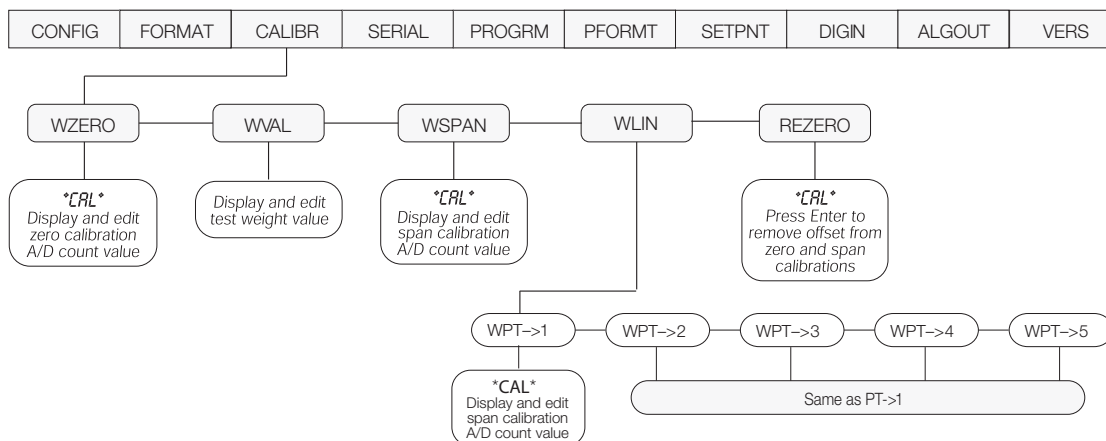

Figure 4-1. Calibration (CALIBR) Menu
2. Press $\triangleright$ until the display reads *CALIBR* (see Figure 4-1). Press ∇ to go to zero calibration (*WZERO*).